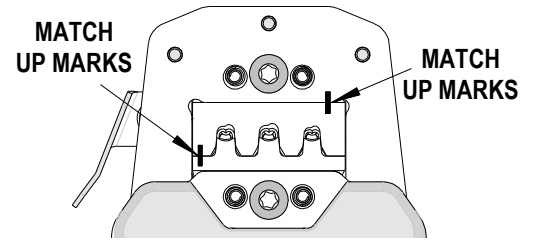

Figure 5
5. Install the M3 screw. Make sure the small markings on the front of the hand tool frame match up. See Figure 5.